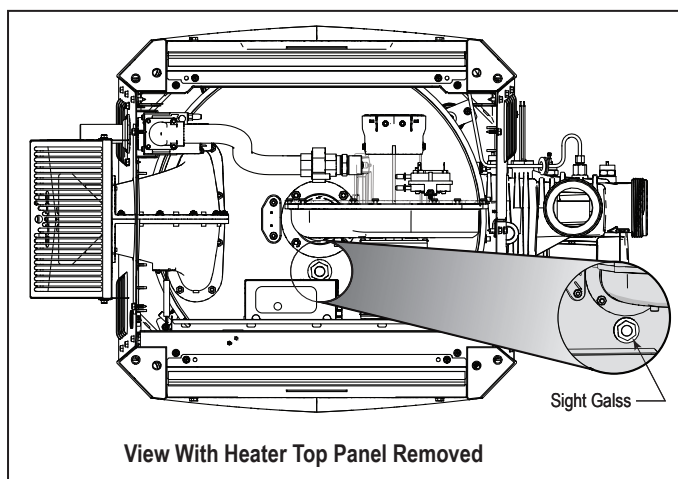

Figure 21. Remove Heater Top to View Sight Glass
- Visually check the main burner flame. Remove the top of the heater to inspect the sight glass. See *Figure 21*